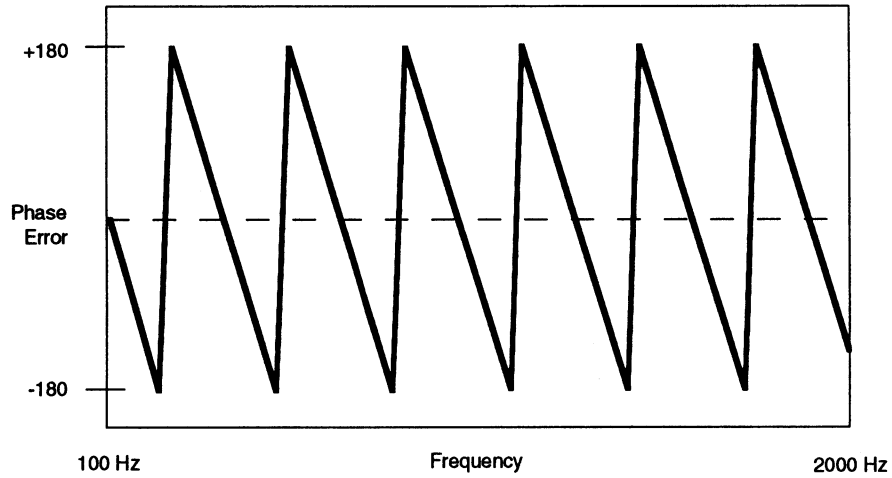
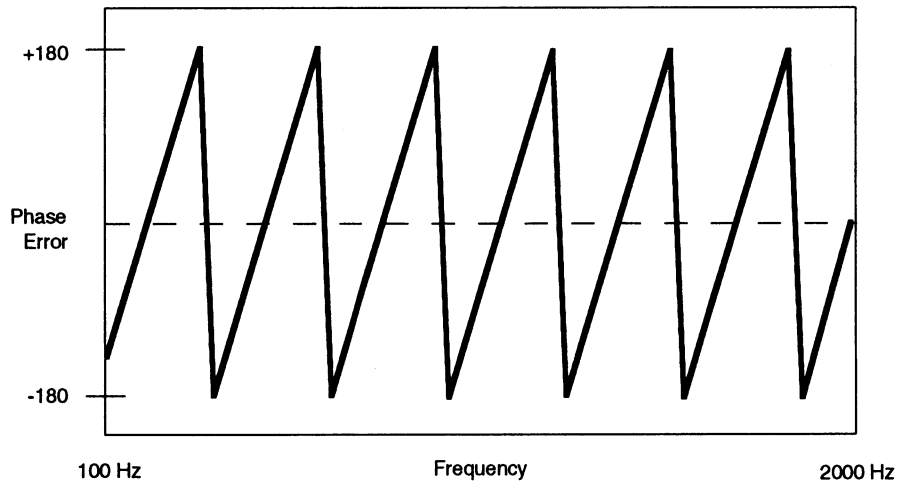

Figure 13. Example of Scope Trace with Too Much Delay
Figure 14. Example of Scope Trace with Too Little Delay
- PON-equipped systems - program the reference DSM and the DSM/RDM for the channel under test, for 0 phase delay using the PON. A waveform with too much delay resembles Figure 13. A waveform with too little delay resembles Figure 14. The trace has negative slope and multiple -180 and +180 phase reversals.
You can set different values of delay in increments of 5 μ s by closing the appropriate switches (1-10) on the DIP switches. A waveform with too much delay resembles Figure 13. A waveform with too little delay resembles Figure 14. The trace has negative slope and multiple -180 and +180 phase reversals.